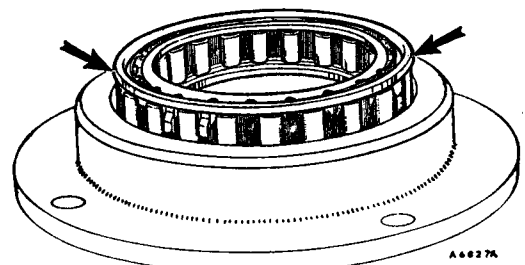

Fig. Fa.59
(6) Reassemble the thrust bearing, intermediate spring ring, first gear free-wheel (lip facing outwards, see Fig. Fa.59), spring ring, and refit the circlip.